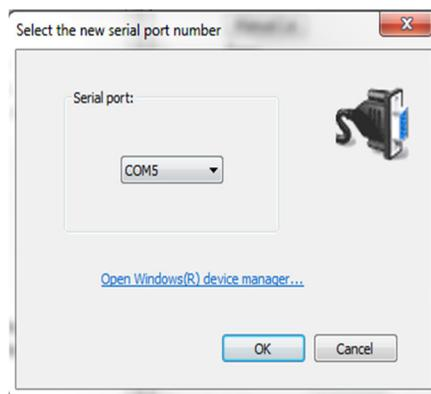

Figure 3. Serial Communications Dialog Box
7. From within Sequence, select **View>Options>Communications**. The Serial Communications dialog box will open (**Figure 3**).